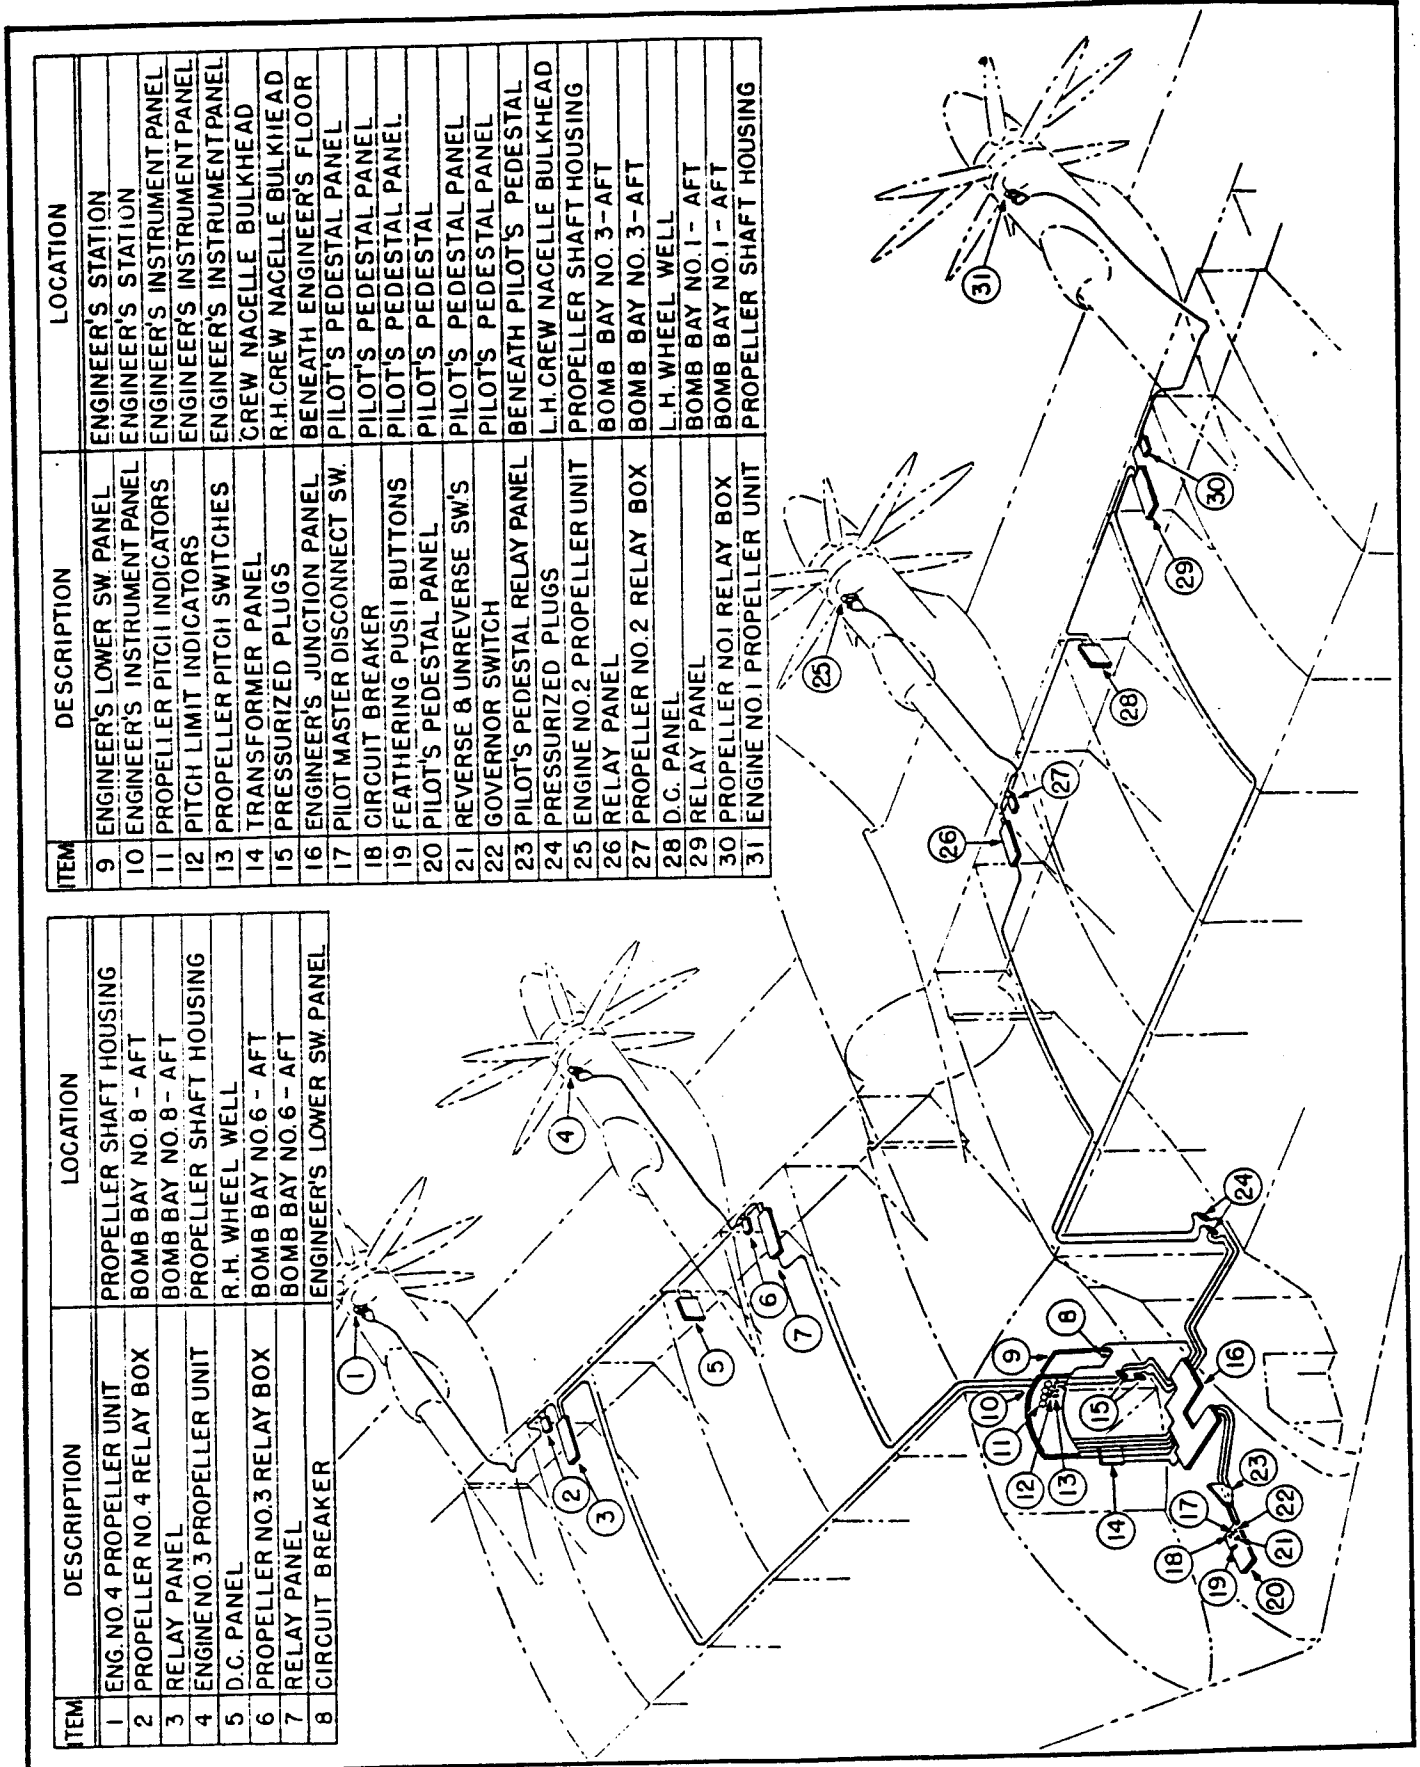

Figure 2. Automatic Propeller Control Electrical Installation
(2) OPERATION. (See figure 2.)